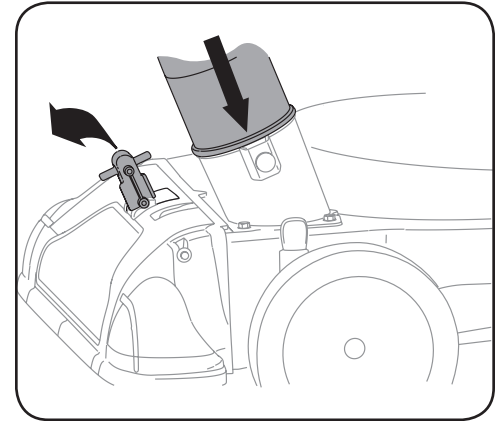

Figure 4-5
- Place nozzle/hose vac lever in the bottom position on the nozzle to redirect vacuum to the hose assembly. See Figure 4-5.
- The spring loaded pin must be in the second hole of the hose adapter to operate the hose assembly. See Figure 4-5.